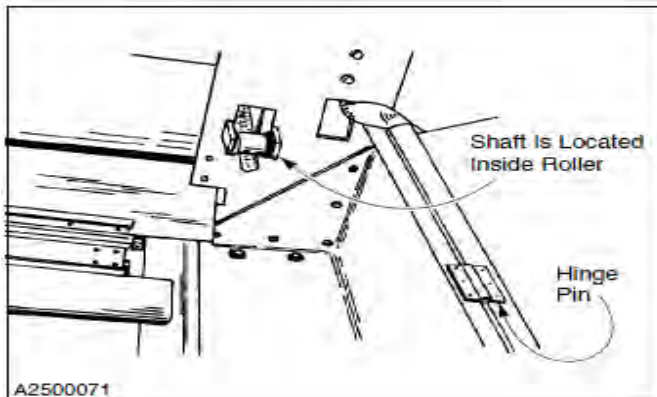

Figure 38
4. **Upper Rollers:** The upper end of each tension strap travels on an upper roller. These rollers, located near the ends of the head assembly, each spin on a shaft that must be lubricated with a good-quality grade of heavy lubricating oil. (See Figure 38.)
5. **Hinge Pins:** All side cover hinge pins must be lubricated with a good quality penetrating oil to prevent the hinges from rusting. (See Figure 38.)